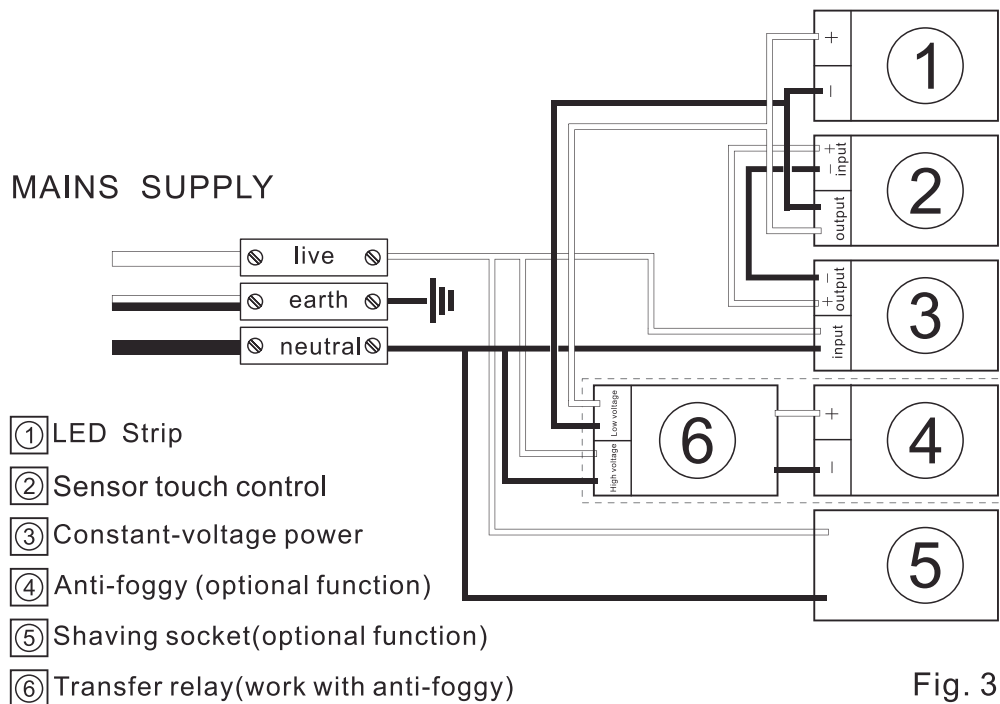

Fig. 3
5. Switch off the power, and then use a terminal block to connect the three-core exposed wires with those reserved on the wall (see details in Fig 3)